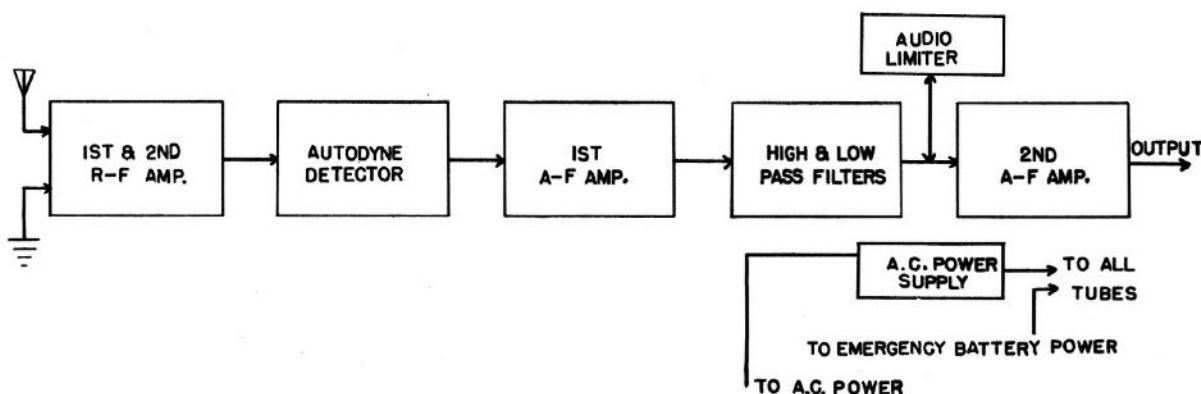

Figure 4-1 - Block Diagram of CNA-46161 Radio Receiver
a. As shown in the schematic diagram, Figure 7-1 the Type CNA-46161 Radio Receiver comprises two R.F. stages and a regenerative detector stage, coupled by means of tuned impedances. Two sets of tapped inductors together with a three-gang tuning capacitor are used to cover the frequency range of 15 to 600 kilocycles. A bandswitch permits selection of any one of six bands and in addition selects coupling taps on the inductors so as to maintain satisfactory sensitivity and selectivity over the wide frequency range covered by the receiver. The tuned inductors are wound on ceramic forms and are protected against the effects of humidity by means of wax impregnation. Interaction between stages is prevented by copper shields around the inductors and by filters in common power supply leads. A detailed schematic diagram of the radio-frequency portion of the Type CNA-46161 Radio Receiver is shown in Figure 7-2; in this diagram the bandswitch is shown adjusted to connect the inductors for 15 to 25 kilocycle operation (Band A); to illustrate the theory of operation, it will be assumed that Band A is in use. Figure 4-1 illustrates the functions of the circuits comprising the receiver.